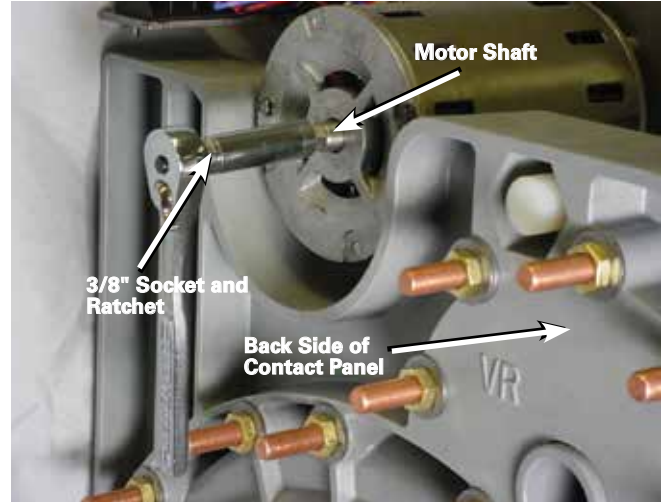

Figure 6. Motor and movable contact rotation.
7. When the movable contacts are located on the stationary contact to be replaced, the movable contacts must be moved. Place a 3/8" socket onto the rear shaft of the motor. See Figure 6. Using a ratchet, rotate the motor to position the movable contacts off of the contact to be replaced.